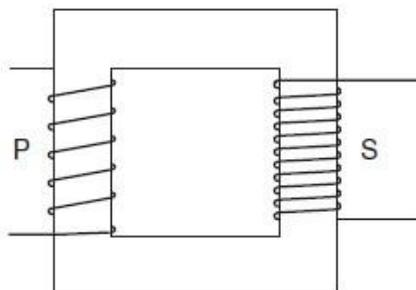

Fig. 8.2
- (b) Fig. 8.2 shows a transformer. P is the primary coil. S is the secondary coil. The coils are wound on an iron core.